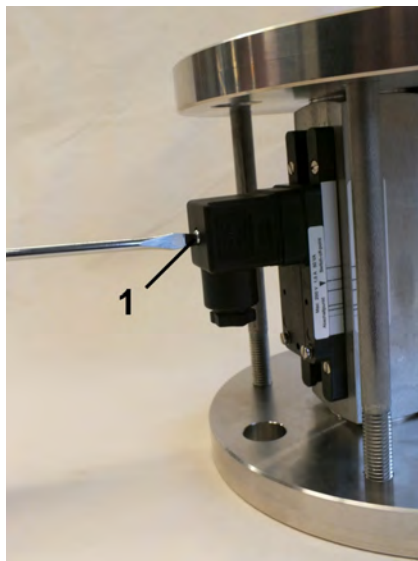

Fig. 73: Loosen female socket
1. ▶ Loosen the fixing screw (Fig. 73/1) of the female socket with a flat-bladed screwdriver